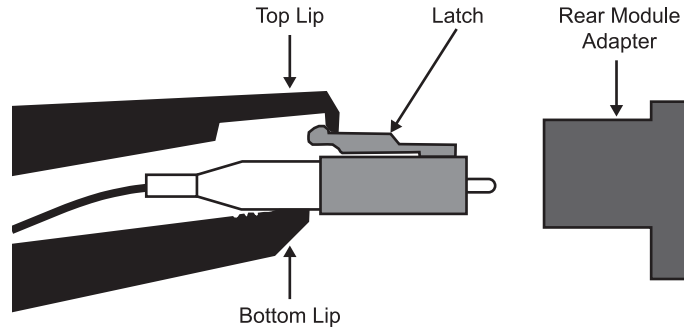

Figure 2.4 Positioning the Optic Cable Tool — Single-Latch Connector
2. Position the bottom lip of the Optic Cable Tool on the connector boot, ensuring that the top lip makes contact just behind the notch at the end of the latch. (**Figure 2.4**)